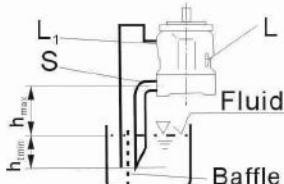

Fig.2
- b) If the minimum fluid level is below the pump mounting face pipe port "L₁" and "S" according to Fig.2.
Before installation fill the pump housing, keeping it in a horizontal position. For mounting above reservoir see Fig.2.